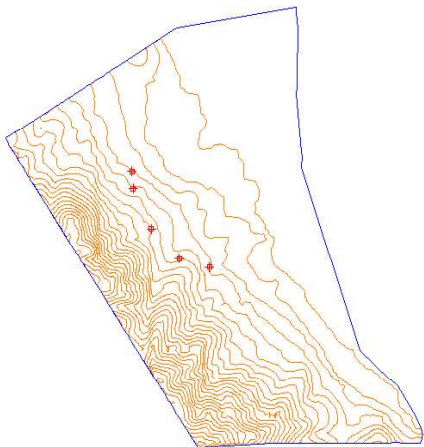

Figure 2-67 Surface with COGO points
5. Choose **OK** to apply the selected settings and exit the dialog box. The surface with the COGO points is displayed, as shown in Figure 2-67.